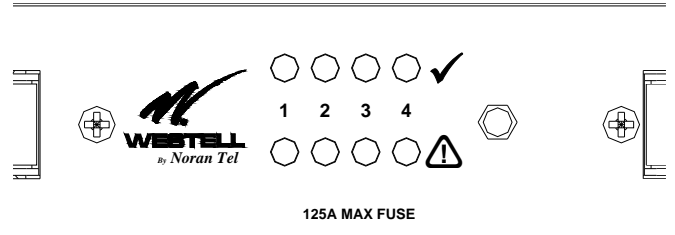

Figure 1.4.1
each fuse position to extend alarm conditions. Each relay has a common (COM), normally open (NO), and normally closed (NC) contact. The local alarm LEDs are located on the front of the panel as shown in Figure 1.4.1.
3.3. Alarm circuitry provides visual alarm indicators and an alarm extension for each fuse position. Alarm contacts are located on the back of the panel on wire wrap terminals. On the front of the panel, a red FUSE ALARM LED  will indicate a fuse failure. Otherwise, a green NORMAL OPERATION LED  will be lit provided there is no power failure. Figure 1.4.1 shows the alarm LED layout.